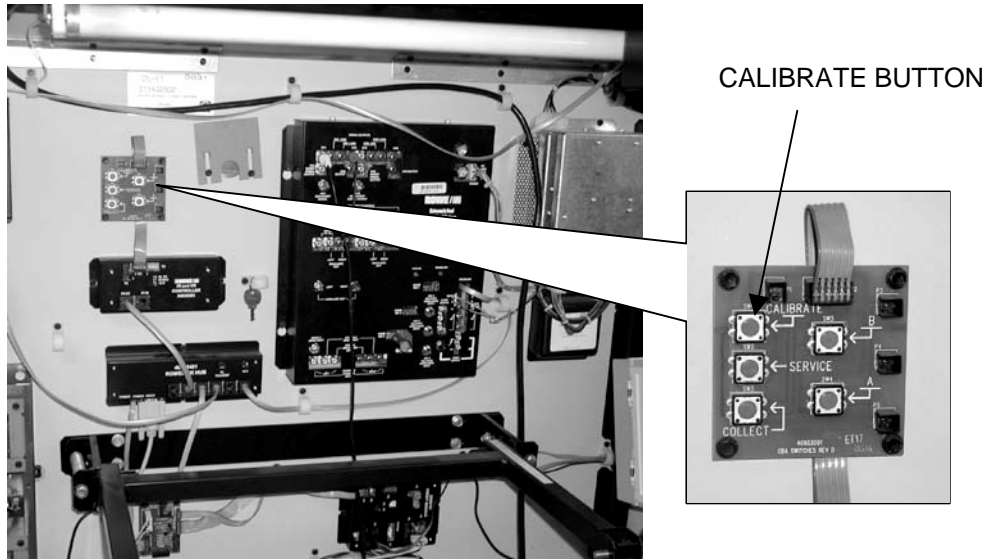
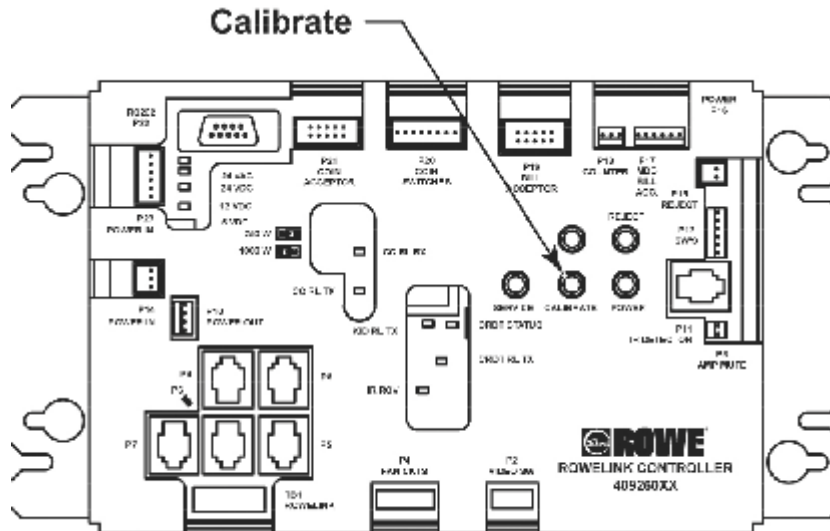

Figure 26 - Switch Assembly
Figure 27 - Rowelink Controller
3. Locate the **“Calibrate”** button on the Switch Assembly (Figure 26) or Rowelink Controller (Figure 27).